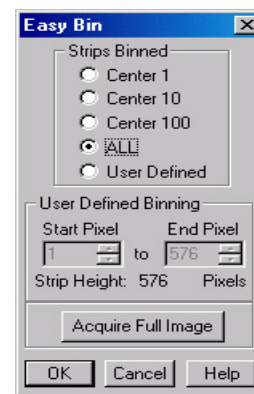
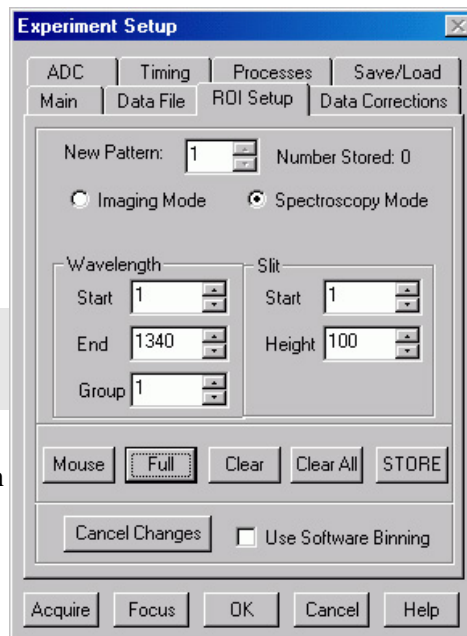

Figure 131. Easy Bin dialog
Figure 132. ROI Setup tab page (Spectroscopy Mode)
A Region of Interest (ROI) may be the entire CCD array or it may be a rectangular subregion of the array. For data acquisition, the definition of such a region is done either from the Easy Bin dialog (Figure 131, page 148) accessed from the Acquisition menu or from the ROI Setup tab page (Figure 132, page 149), accessible after selecting Experiment Setup from the Acquisition menu. Easy Bin is a simple way of defining a single full chip width ROI. ROI Setup allows you to create multiple ROIs with greater flexibility in ROI location and width.
2. On the **Easy Bin** dialog (Figure 131), click on the appropriate radio button:
1. Open the **Experiment Setup** dialog and click on the ROI Setup tab to open the **ROI Setup** tab page (Figure 132).